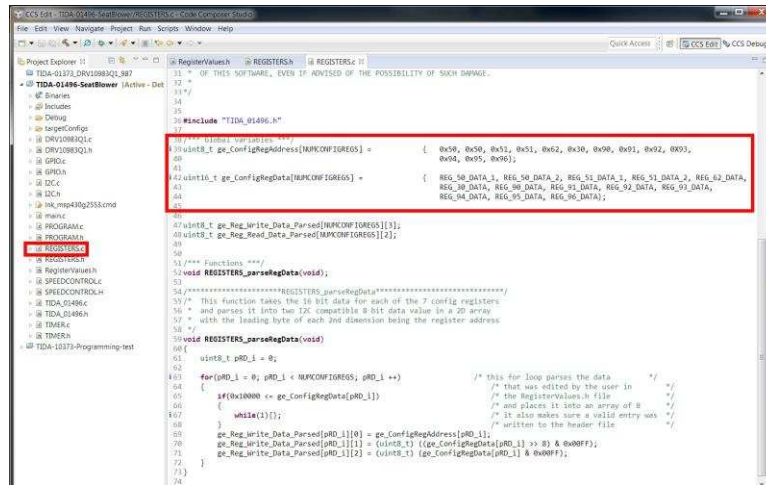

Figure 12. How to Change Array of Registers Used in Project
- c. Define the register address in the REGISTERS.c source file in both corresponding arrays as shown in Figure 12.